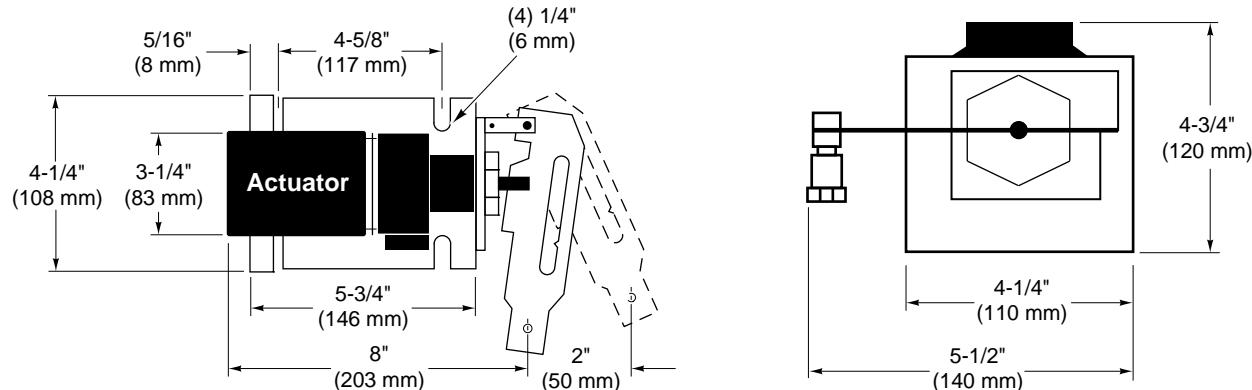

Figure-21 Damper Linkage Assembly Dimensions.
- b. Be sure to allow adequate working space around the actuator mounting location to mount the actuator, link it to the damper, and wire it into the system (refer to Figure-21).
- 2. Position the actuator on the duct and mark the location of the mounting holes, using the actuator mounting bracket as a template (refer to Figure-21).